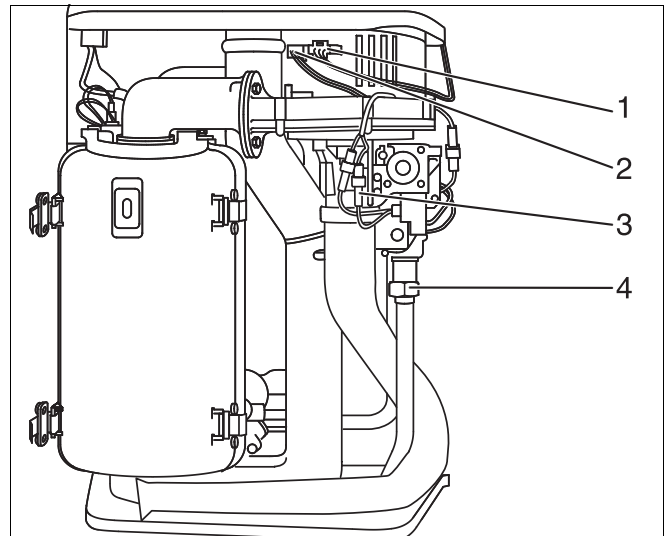

Fig. 27 Loosen the union nut and remove the cable
- Release plug-in connection of fan power lead (fig. 27, item 1), burner-control unit fan control lead (fig. 27, item 2) and gas-burner assembly (fig. 27, item 3).
- Loosen union nut on gas valve assembly (fig. 27, item 4).
- Release plug-in connection of fan power lead (fig. 27, item 1, page 27), burner-control unit fan control lead (fig. 27, item 2, page 27) and gas-burner assembly (fig. 27, item 3, page 27).
- Loosen union nut on gas valve assembly (fig. 27, item 4, page 27).